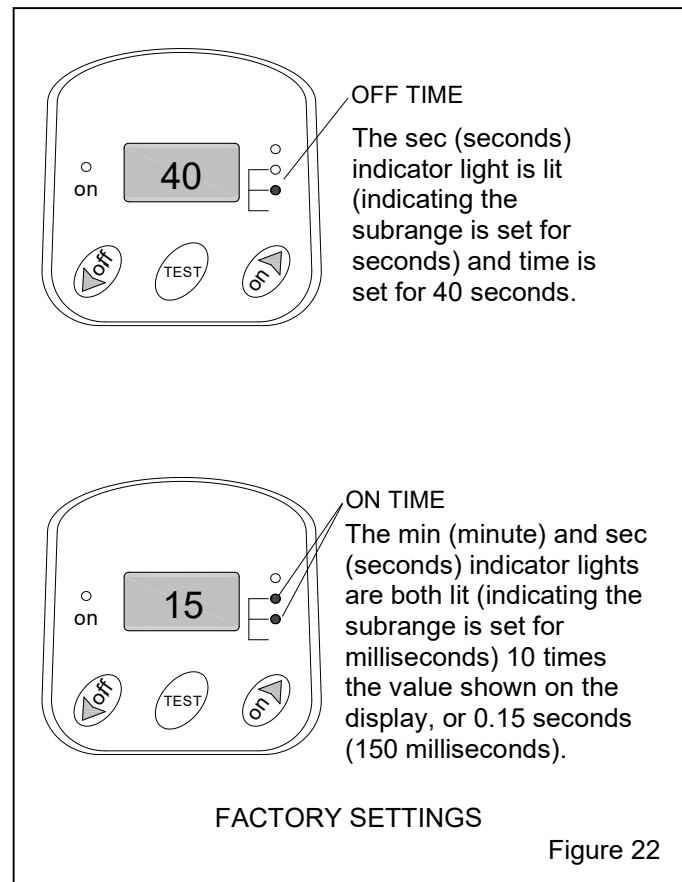

Figure 22
5.9.1.2 The timer is factory set at 40 seconds OFF and 150 milliseconds (0.15 second) ON, as shown in Figure 22. Every 40 seconds, the cartridge is pulsed for 0.15 second.